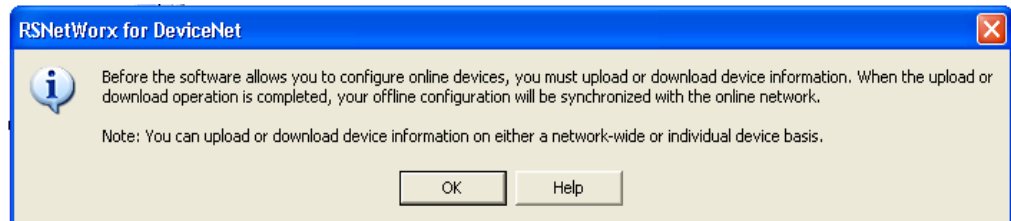

Figure 3-13: Confirmation Dialog Box
3. Click **OK** to continue. A dialog box like the one shown in Figure 3-13 will appear. Note that you may be asked to upload or download, depending on the version of software used.